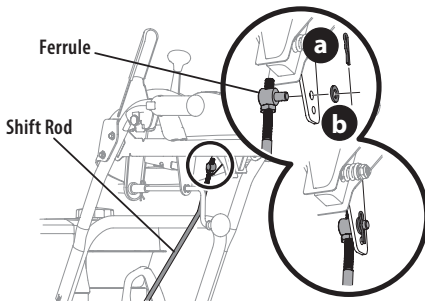

Figure 32
8. Remove cotter pin (a) and washer (b) from ferrule on end of shift rod (Figure 32 inset).
10. Insert ferrule into top hole of shift lever and secure with cotter pin (a) and washer (b) removed in Step 8 (Figure 32). Ferrule may need to be adjusted up or down.